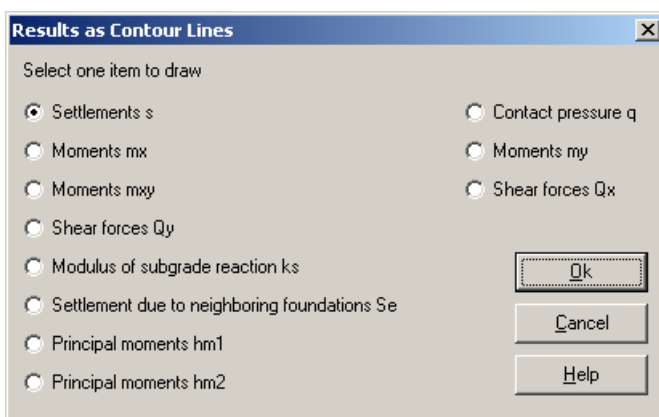

Figure 9-40 "Results as contour lines" option box
- The following option box in Figure 9-40 appears
The option box in Figure 9-40 appears